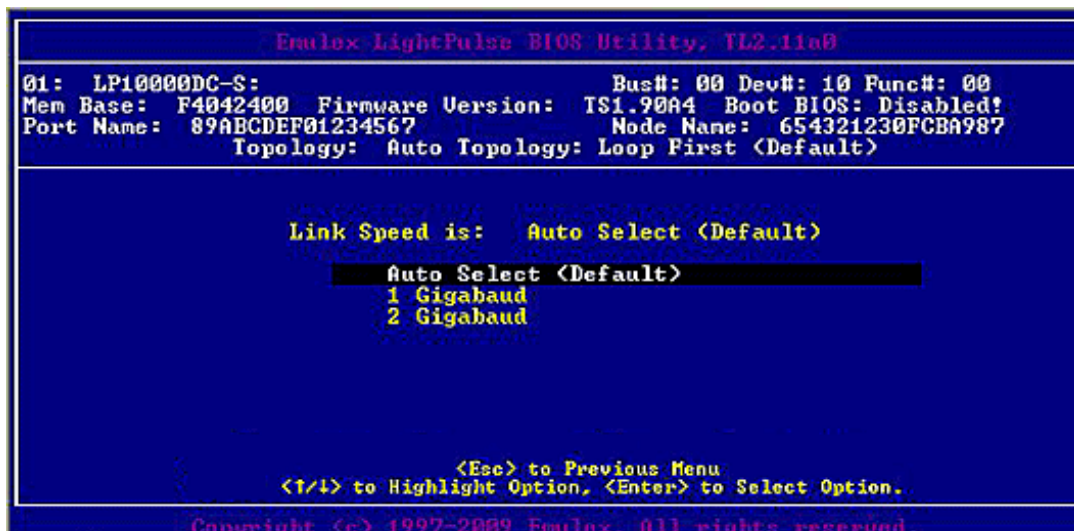

Figure 4-19 Link Speed Selection Menu
2. Select **Link Speed Selection**. A menu similar to Figure 4-19 is displayed.